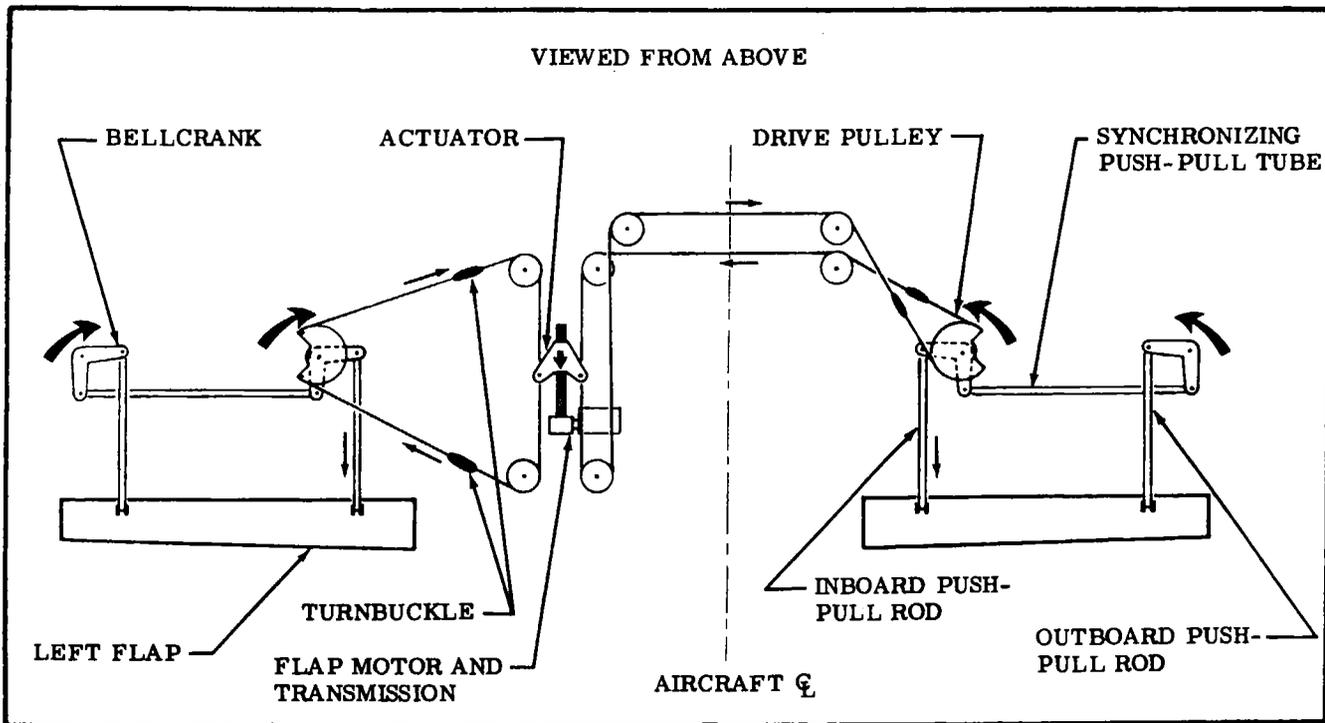

Figure 7-3. Flap System Schematic
- c. Disconnect push-pull rods (17) at drive pulleys (11).
- d. Disconnect push-pull rods (23) at bellcranks (21).
- e. Disconnect synchronizing push-pull tubes (13) from drive pulleys (11) and bellcranks (21).
- f. If cables are being replaced, with drive pulleys (11) installed, rotate drive pulleys beyond their normal range of travel to permit cable attachment. If drive pulleys are not installed, it may be easier to attach the cables prior to installing the drive pulleys in the wings.
- f. Attach the 1/8" direct cable to the forward side of drive pulleys and the 3/32" retract cable to the aft side of drive pulleys. (Refer to figure 7-3.)
- h. Adjust synchronizing push-pull tubes (13) to 41.87" between centers of rod end holes, tighten jam nuts and install.
- i. Adjust inboard push-pull rods (17) to 10.81" and outboard push-pull rods (23) to 10.39" between centers of rod end holes, tighten jam nuts and install.